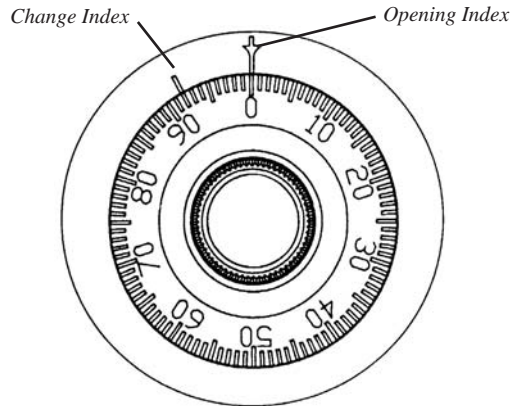

Figure 1. The changing and opening indices on the dial ring of the mechanical combination lock dial.
There are two marks on the dial ring (Refer to Figure 1). The index at the top is used for opening the lock, The index 30 degrees to the left is used only when changing the combination.
2. Refer to Figure 1. Dial the existing combination again, using the changing index.